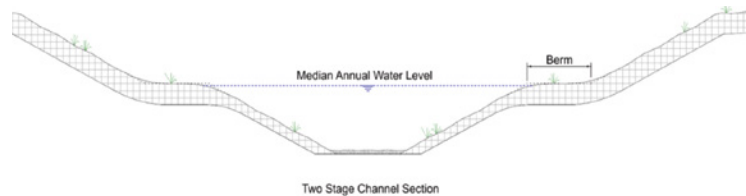

Figure 4: Typical Two-Stage Channel with Berm (Source: Mott MacDonald, 2022).
- modifying river morphology to create depth variations lends itself to wetland planting and creation. For example Berms (**Figure 4**, overleaf) that widen of the river cross section at levels above median annual water level (2 yr Annual Exceedance Probability), and Scrapes that lower the ground adjacent to the river, can contribute towards aquatic habitat creation, support WFD objectives and contribute to RFS volume.